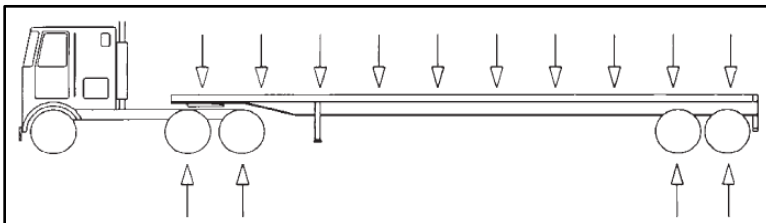

Figure 2: Uniform Load Distribution
2. This trailer will carry a total payload equal to the GVWR less the weight of the trailer. The load must be uniformly distributed and not exceed the GAWR. Consult specific trailer model literature for concentrated load ratings or contact **East**. Recommended payload distributions are shown in Figure 2 through Figure 4.
Trailers are designed for uniform load distribution as shown in Figure 2. The load should be distributed equally between the front and the rear of the trailer.